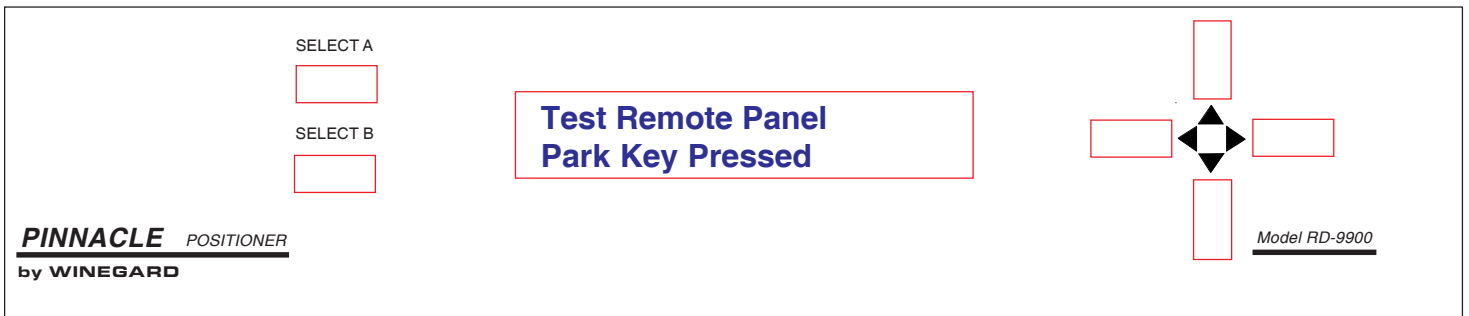

Figure 20
13. Press **[PARK]** button twice. **Park Key Pressed** will be displayed on positioner. See Figure 20.